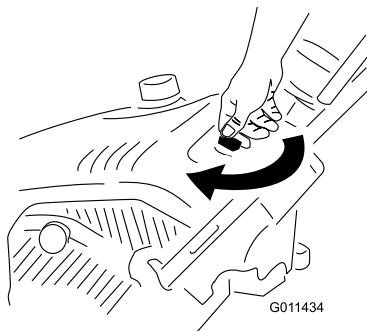

Figure 12
1. Turn the ignition key clockwise to the ON position (Figure 12).